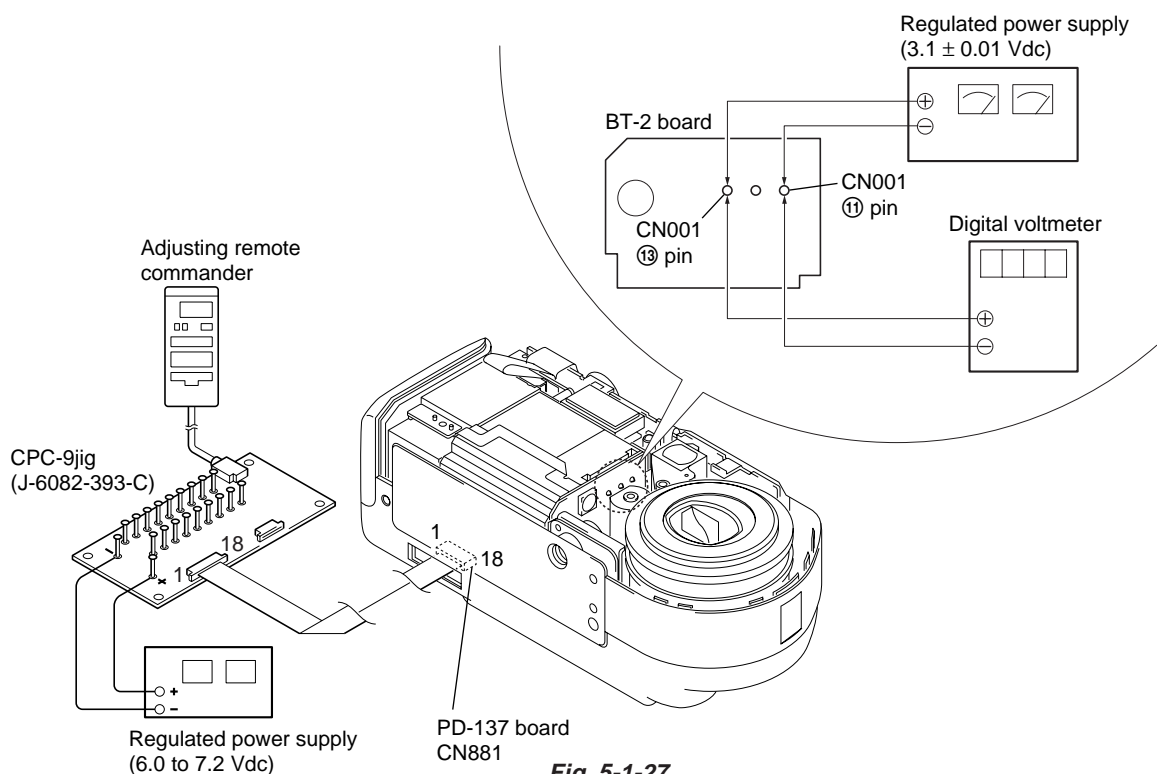

Fig. 5-1-27
- 1) Connect the regulated power supply and the digital voltmeter to the battery terminal as shown in Fig. 5-1-27.